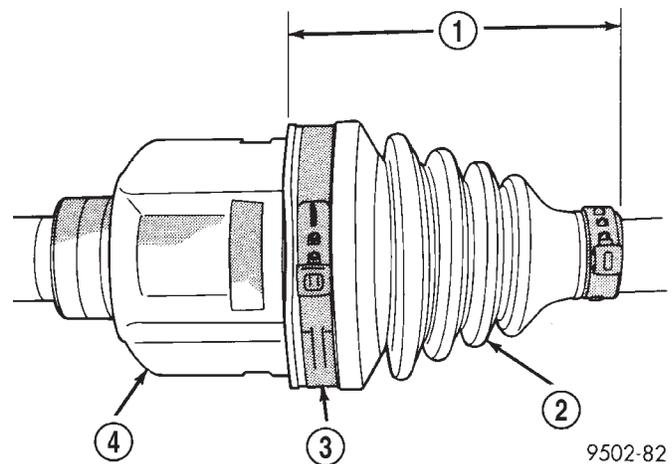
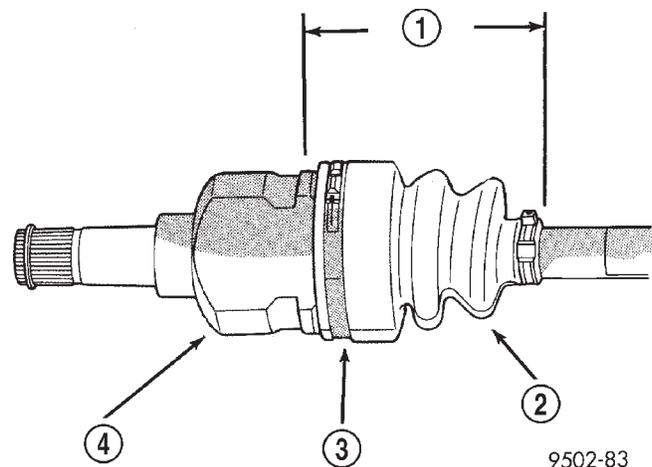

Fig. 30 Sealing Boot End to End Length with Hytrel Boot
Fig. 31 Sealing Boot End to End Length with Silicone Boot
(10) With trim stick inserted between sealing boot and tripod joint housing, position inner tripod joint on driveshaft until correct sealing boot edge to edge length is obtained for type of sealing boot material being used (Fig. 30) (Fig. 31). Then remove the trim stick.